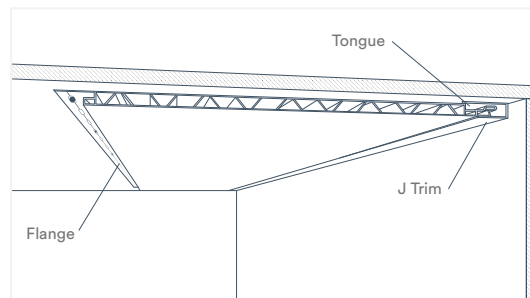

Fig. 7
- Cut the length of the first panel for the first course. Position the panel so the screw flange is pointing away from the wall (Fig. 7). Ensure the panel is parallel to the outside wall before fastening.